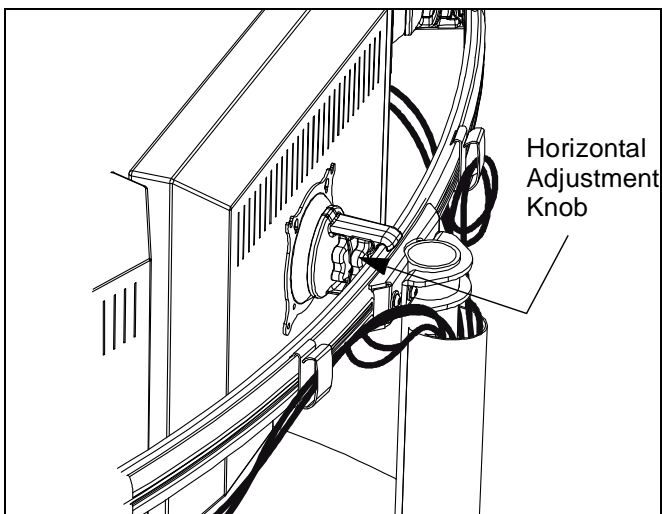

Figure 11
- Loosen Centris bracket rear adjustment knob (See Figure 11).